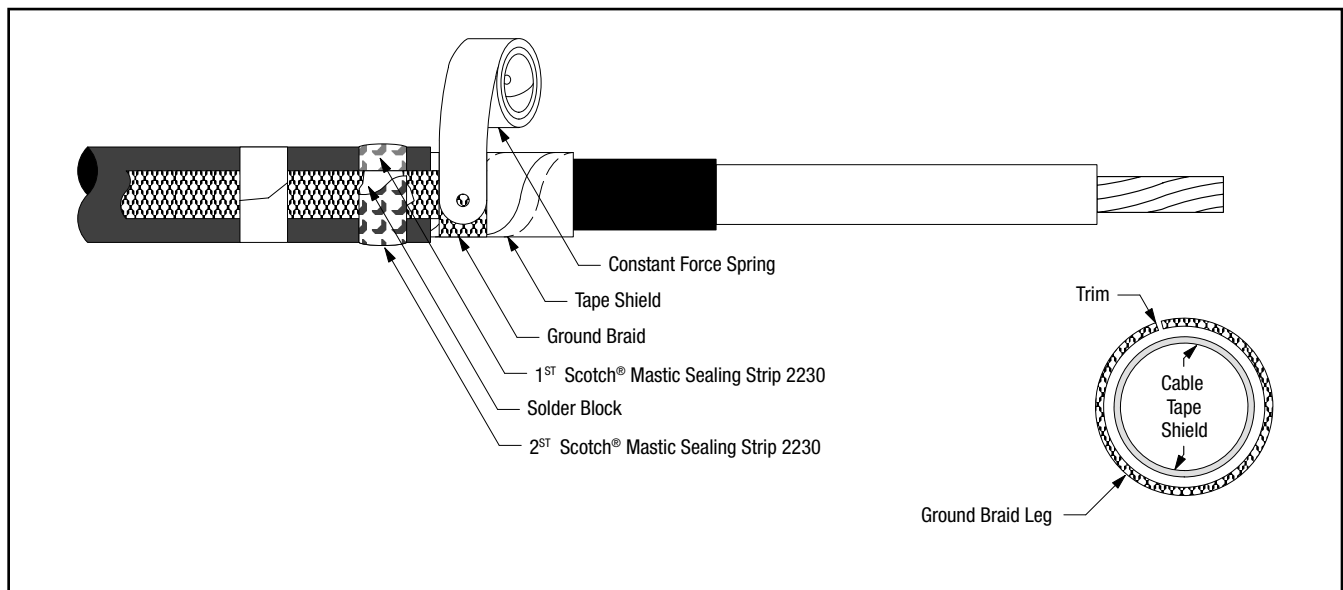

Figure 3
- 3.2 Wrap ground braid around cable tape shield one complete wrap, trim excess to prevent overlap and secure in place with constant force spring. Wrap spring in same direction as ground braid (Figure 3). Cinch (tighten) the spring after wrapping the final winding.
- 3.3 Select second Scotch® Mastic Sealing Strip 2230 from kit and remove white release liners. Apply a second SINGLE WRAP of mastic over solder block on ground braid and previously applied mastic (Figure 3). Cut off excess.